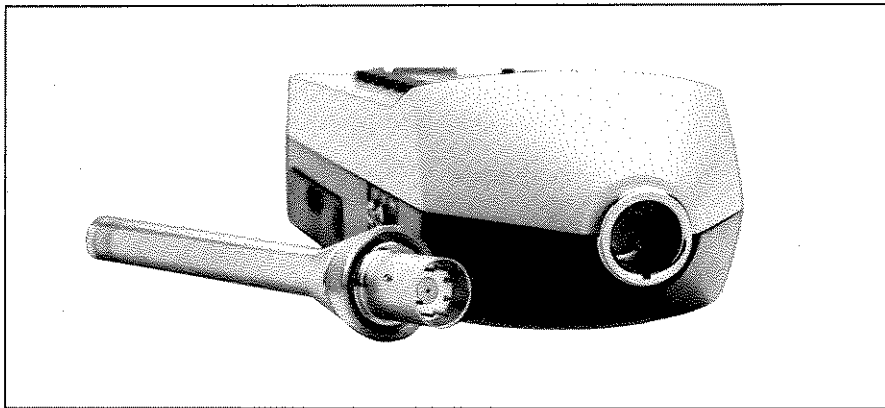

Fig. 2.4. Connection of the Input Stage ZC 0020 to the 2231
3. Insert the Input Stage ZC 0020 into the input stage socket: make sure that the key follows the key slot correctly. (See Fig. 2.4).